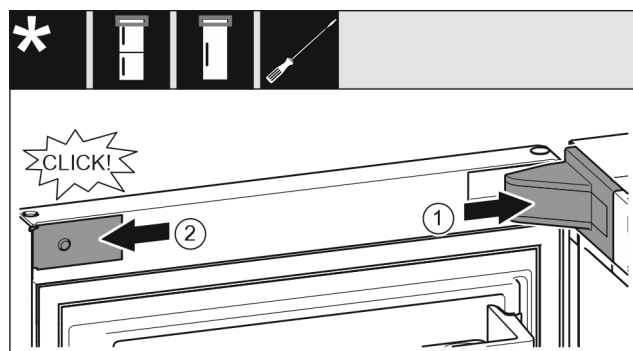

Fig. 22
- Put the swap bearing block cover Fig. 22 (1) on and engage, push apart carefully if required.
- Place the trim Fig. 22 (2) on the side and engage.